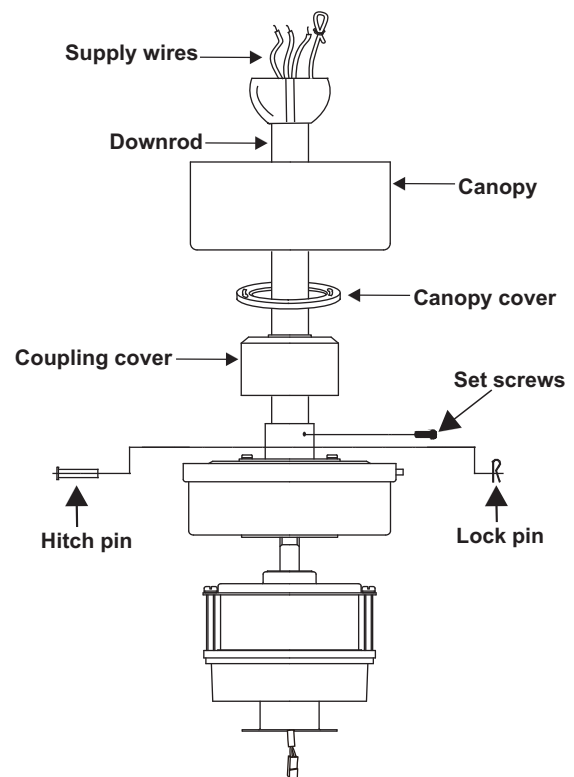

Figure 7
4. Loosen the two set screws and remove the hitch pin and lock pin from the central shaft/top coupling of the motor assembly. (Fig. 7)
5. Route wires exiting from the top of the fan motor through the coupling cover, canopy cover and canopy and then through the ball/downrod. (Fig. 7)
6. Align the holes at the bottom of the downrod with the holes in the collar on top of the motor housing. Carefully insert the hitch pin through the holes in the collar and downrod. Be careful not to jam the pin against the wiring inside the downrod. Insert the lock pin through the hole near the end of the hitch pin until it snaps into its locked position. (Fig. 7)